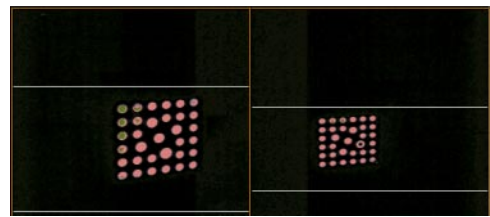

Figure 3-79
13. **Fine adjustments.** Using the adjustment screws indicated by the software, loosen the jam nuts and adjust the screws until the target image appears inside the horizontal lines on both sides. (Figure 3-79) It may be necessary to use two screws to make this adjustment. After adjustments have been made tighten the jam nuts and click on **<OK>**.